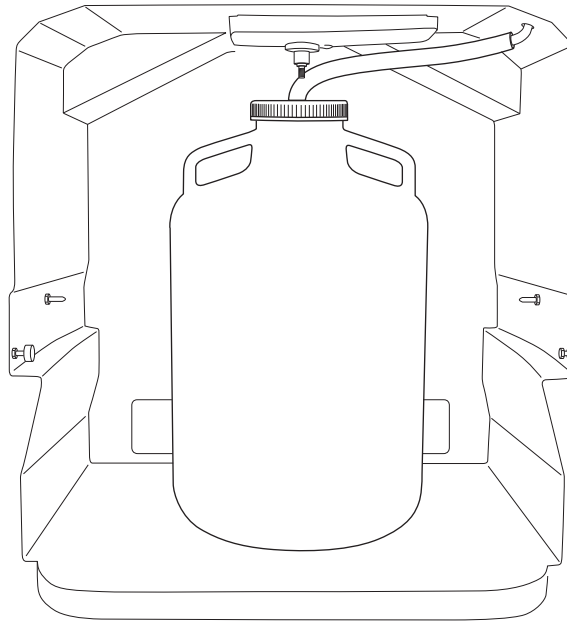

Figure 2-6 One 20 liter bottle configuration with discharge tube through the bottle cap
6. Feed the discharge tube into the hole (see Figure 2-6).